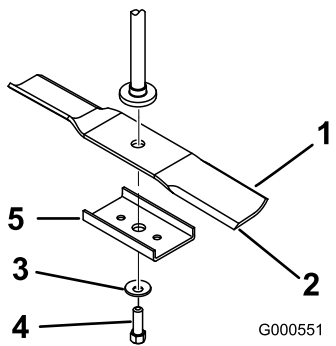
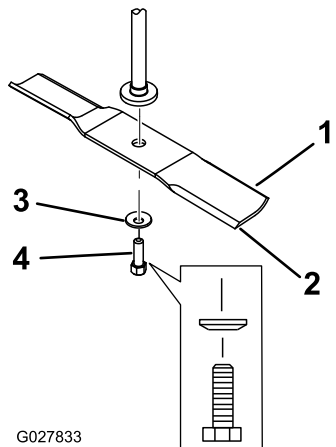

Figure 60
Figure 61
2. Remove the blade stiffener (32-inch decks only), blade bolt, the curved washer, and the blade from the spindle shaft (Figure 60 and Figure 61).
1. Install the blade onto the spindle shaft (Figure 61).
2. Install the blade stiffener (32-inch decks only), curved washer (cupped side toward the blade), and blade bolt (Figure 61).